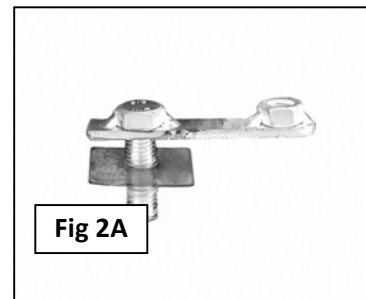

Fig 2A
2. Starting at the driver side-front of the vehicle, remove the sealing tape covering the factory holes on the side of the inner panel, (**Figure 1A, 1B, 1C**). Partially thread (1) 12mm Plastic Retainer onto the threaded end of (1) 12mm Bolt and Nut Plate, (**Figure 2A**). Insert the Bolt and Nut Plate into the factory oval hole. Continue to thread the Plastic Retainer down the Bolt and Nut Plate until it is flush against the sheet metal, (**Figure 2B**). **NOTE:** When properly installed, the Plastic Retainer is designed to prevent the Bolt and Nut Plate from falling into the body cavity during installation.